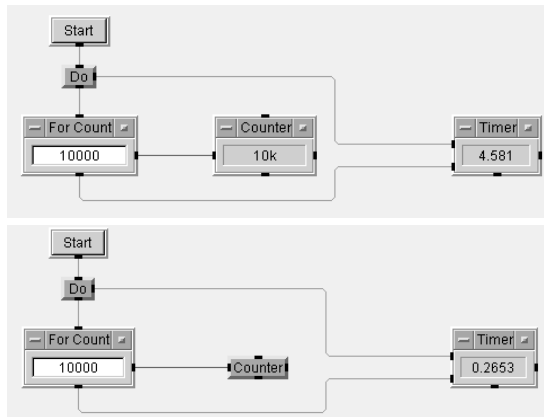

Figure 18.3. Improving by using icons
- Make objects into icons whenever possible. See Figure 18.3.